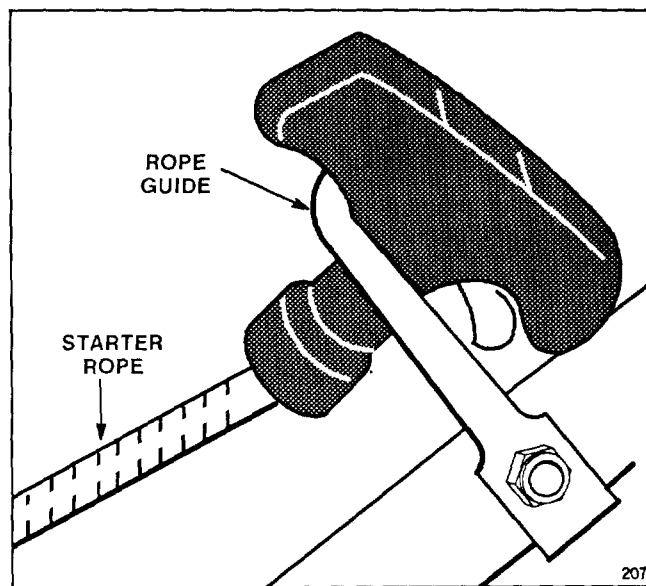

Figure 2
4. Pull starter rope through loop opening on handle (Fig. 2). By squeezing control bar on handle, blade brake will release and allow rope to be pulled up easily to loop.